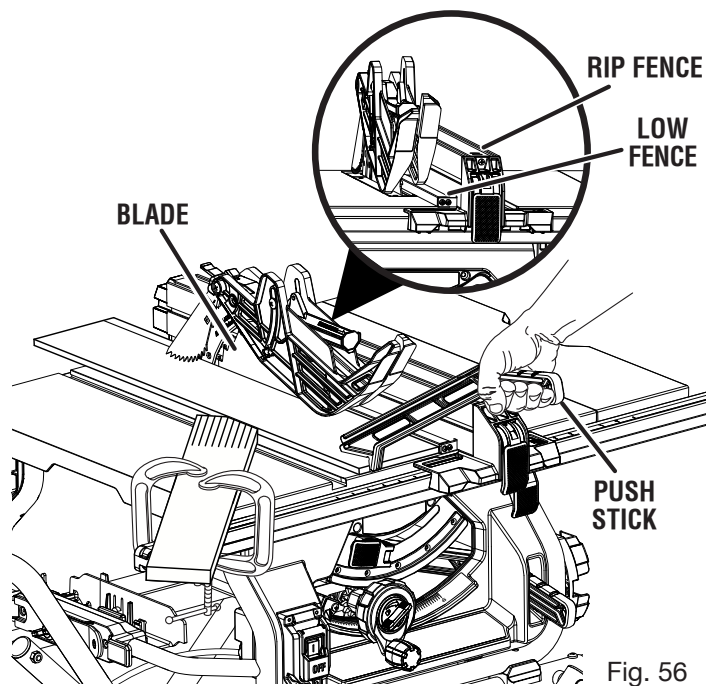

Fig. 56
**NOTE:** The cutting operation illustrated in figure 56 will result in the saved piece being between the rip fence and the right side of the blade. Alternatively, you could place the rip fence and the wide portion of the workpiece on the right side of the blade, which would result in the saved piece being on the left.